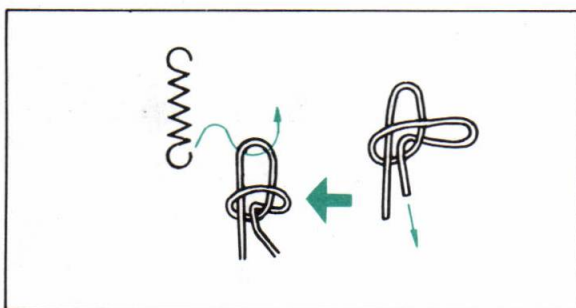

Fig. 2-6. Tying square knot in the coil spring
3. Tie the end of the cord to a spring as shown in Fig. 2-6.